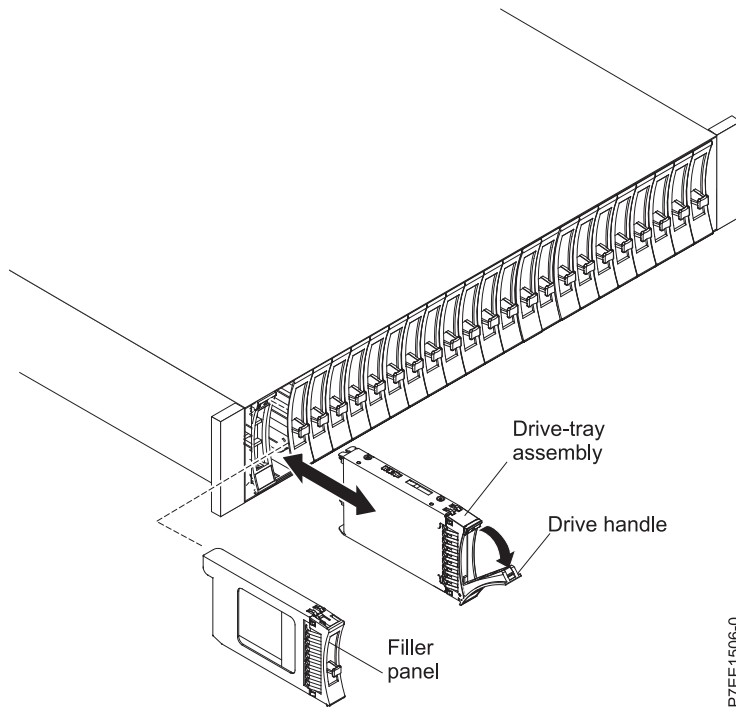

Figure 28. Removing a drive from the 5147-024, ESLL, or ESLS storage enclosure
4. Grasp the front of the drive and pull it out from the slot, ensuring that you support the bottom of the drive, as shown in Figure 28 on page 24.